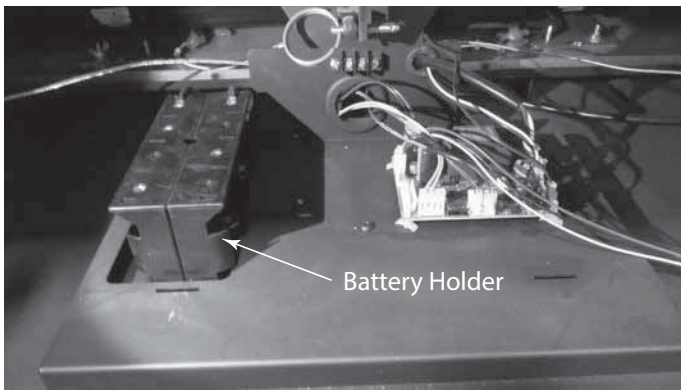

Figure 3.20 Install Batteries
3. Install the batteries. See Figure 3.20